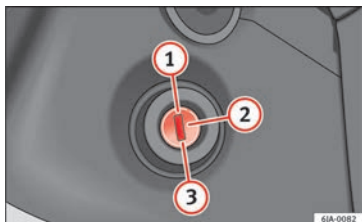

Fig. 172 Ignition key positions.
- When moving with the engine switched off, the ignition key must always remain in position (2) » Fig. 172 » page 151 (ignition on). The control lamps will light up in this position. Otherwise, the steering lock could engage suddenly. Risk of accident!
- The starter motor may only be used (key position (3) » Fig. 172 » page 151 in the ignition) if the engine is off. Using the starter motor when the engine is running could damage it.
- Press the clutch pedal all the way down and start the engine **③** » **Fig. 172** » page 151, without pressing the accelerator. Keep the clutch pedal pressed down until the engine starts.
- Release the ignition key as soon as the engine starts. The key returns to position **②**.
- If the engine does not start after 10 seconds, turn the key back to position **①**. Repeat the action after 30 seconds.
Stop the engine by turning the ignition key to position **①** » **Fig. 172** » page 151.